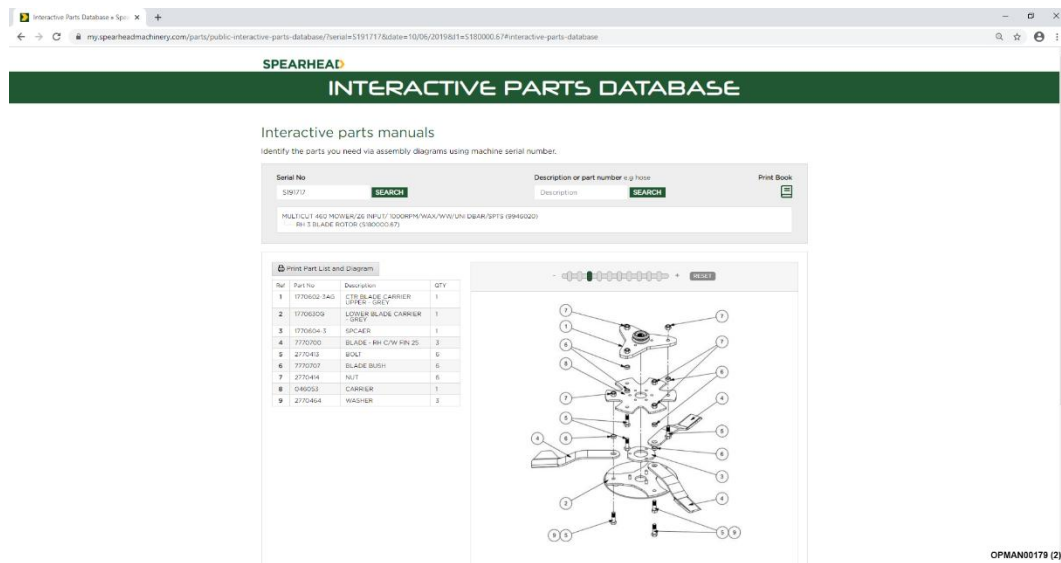

Figure 23 – Exploded Parts Breakdown With Bill Of Materials
- 7.1.1.4 You will finally be presented with a full exploded parts breakdown for that particular assembly, giving part numbers and the quantities required; see Figure 23.